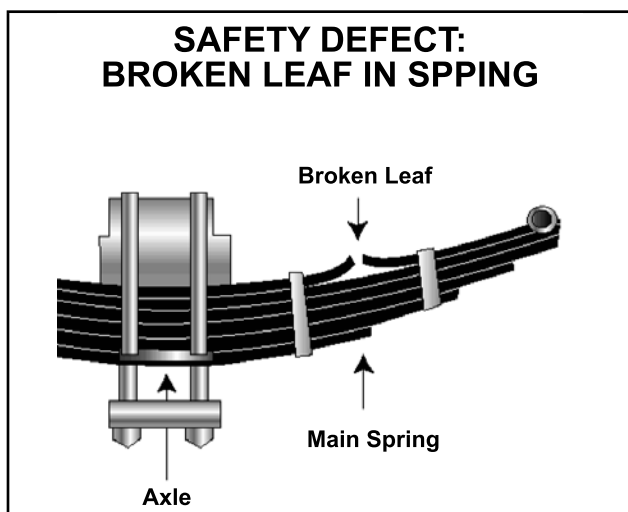

Figure 2.3
- Missing or broken leaves in any leaf spring. If  $\frac{1}{4}$  or more are missing, it will put the vehicle “out of service,” but any defect could be dangerous. See Figure 2.3.